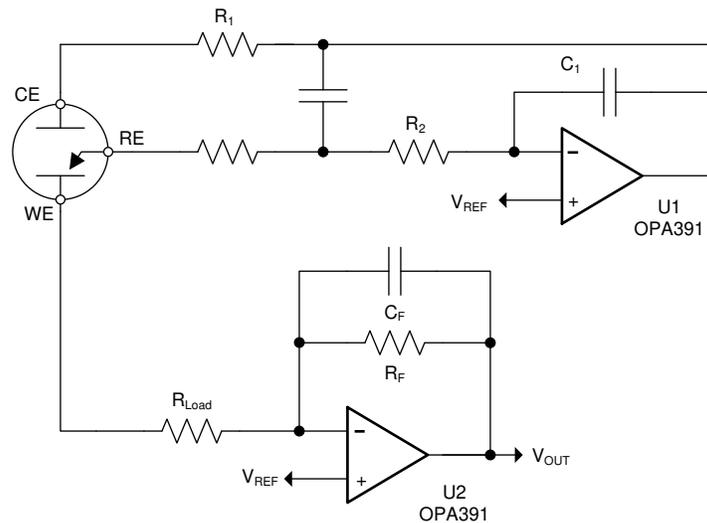

Figure 8-1. Three-Terminal CO Gas Sensor
Figure 8-1 shows a simple micropower potentiostat circuit for use with three-terminal unbiased CO sensors. This same design is applicable to many other type of three-terminal gas sensors or electrochemical cells. The basic sensor has three electrodes: the sense or working electrode (WE), counter electrode (CE) and reference electrode (RE). A current flows between the CE and WE proportional to the detected concentration. The RE monitors the potential of the internal reference point. For an unbiased sensor, the WE and RE must be maintained at the same potential by adjusting the bias on CE. Through the potentiostat circuit formed by U1, the servo feedback action maintains the RE pin at a potential set by V_{REF} . R1 maintains stability as a result of the large capacitance of the sensor. C1 and R2 form the potentiostat integrator and set the feedback time constant. U2 forms a transimpedance amplifier (TIA) to convert the resulting sensor current into a proportional voltage. The transimpedance gain, and resulting sensitivity, is set by R_F according to Equation 1: